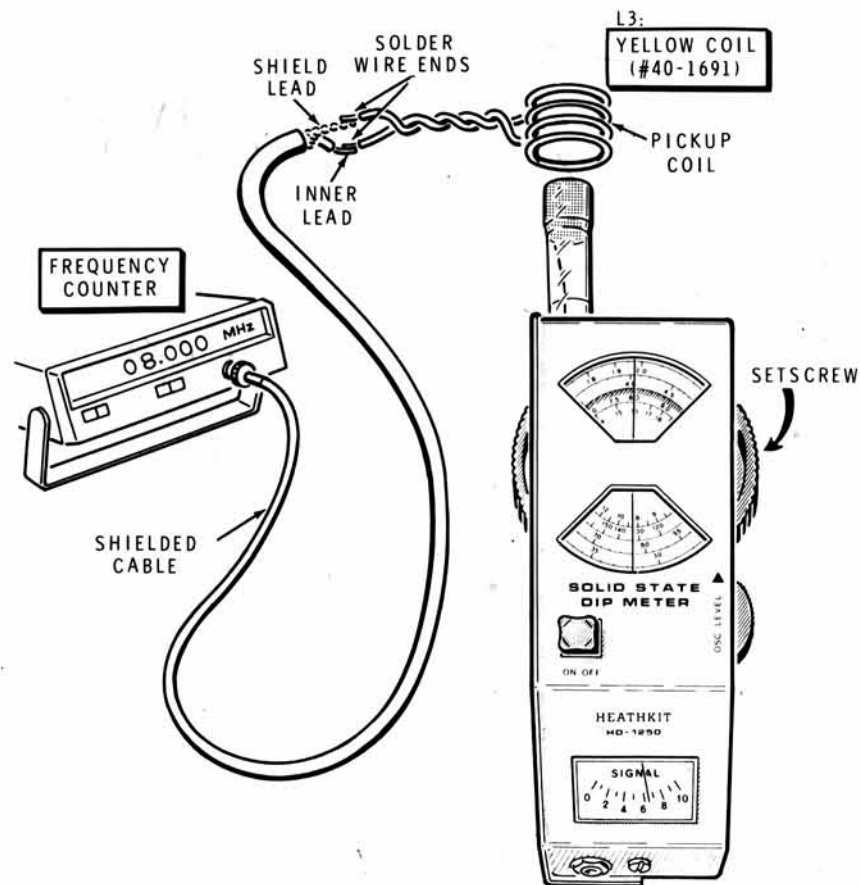

Figure 1-3
3. Connect one end of the wire to the inner lead of the shielded cable, and the other end of the wire to the shield lead of the shielded cable as shown in Figure 1-3.
- ( ) Refer to Figure 1-3 and position the coil of the Dip Meter close to (or through) the pickup coil. Turn the tuning dial of the Dip Meter until a frequency is indicated on the counter that appears on the dial scale. For example, if you selected the green coil, a convenient frequency might be 25.0 MHz.